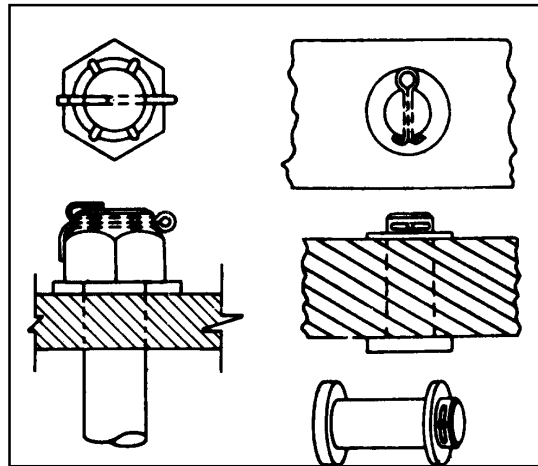

FIGURE 7-6. Securing with cotter pins.
**NOTE:** In using the method of cotter pin safetying, as shown in figures 7-6 and 7-7, ensure the prong, bent over the bolt, is seated firmly against the bolt shank, and does not exceed bolt diameter. Also, when the prong is bent over the nut, ensure the bent prong is down and firmly flat against the nut and does not contact the surface of the washer.